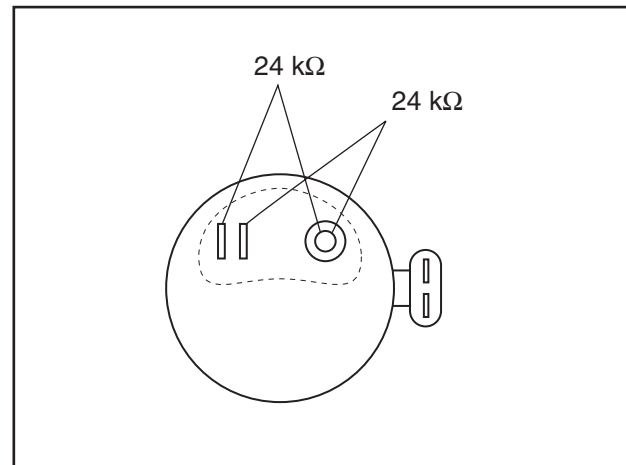

Figure 11. Testing Secondary Coil Resistance
- To test secondary coil resistance, measure resistance from each coil terminal to the contact in the bottom of the coil tower (see Figure 11). The reading from each terminal to the coil tower contact should be approximately 24 kilohms ($\pm 10\%$) at 68°F (20°C).